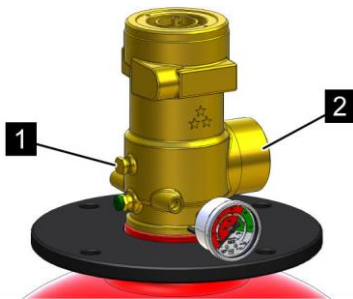

Fig. 51: Valve
2. ➤ Attach the anti-recoil cap on the valve outlet (Fig. 51/2) and the blind plug on the control outlet (Fig. 51/1).